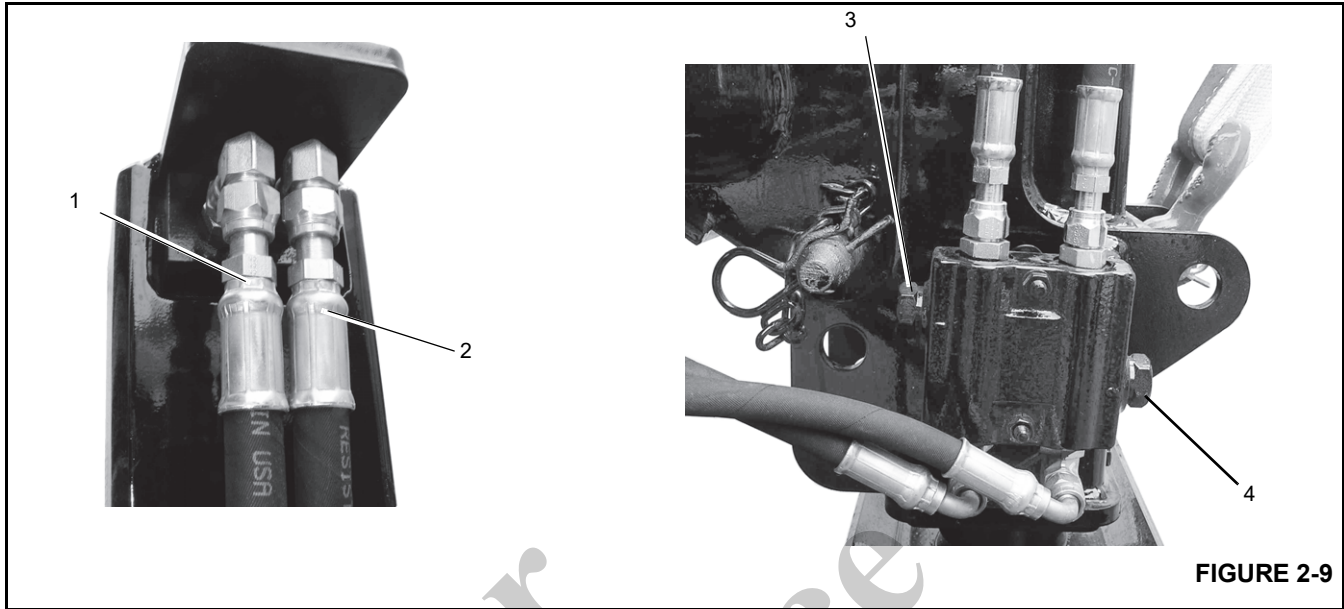

FIGURE 2-9
1. Disconnect the SFO retract (1, Figure 2-9) and extend lines (2). Cap the retract line (1) and install a gauge in the extend line (2).
4. Adjust the extend relief valve (4, Figure 2-9) on the single front outrigger port block to 3447 kPa +689/-0 (500 psi +100/-0).